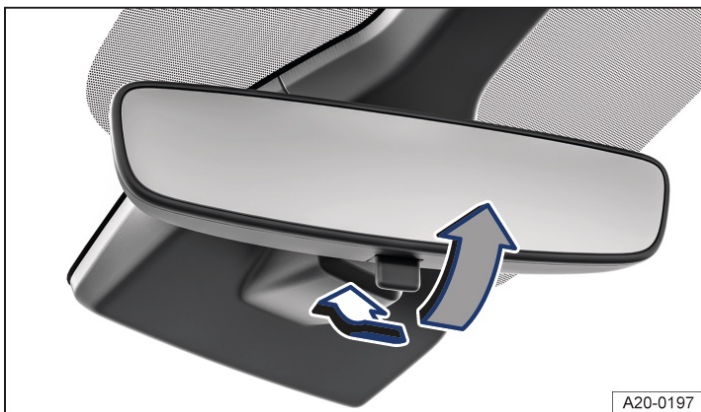

Fig. 2 On the windscreen: manual anti-dazzle interior mirror.
- Pull the lever back to select the anti-dazzle function→ *Fig. 2*.